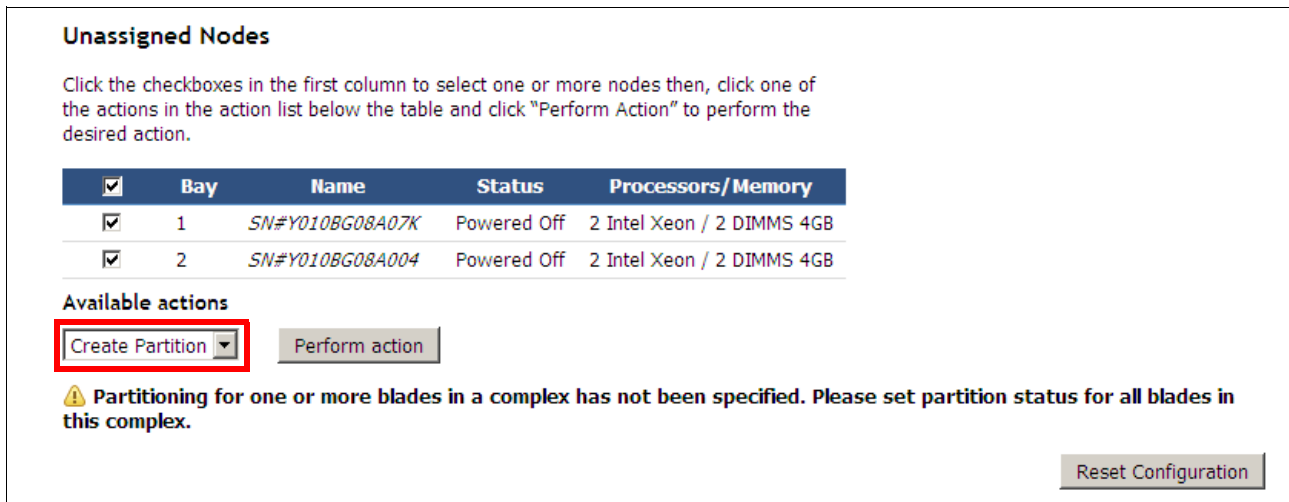

Figure 8-39 Creating a partition
5. Select the two HX5 systems in the Unassigned Nodes area by clicking the check boxes next to them. The **Create Partition** action in the Available actions pull-down list box is preselected for you, as shown in Figure 8-39.